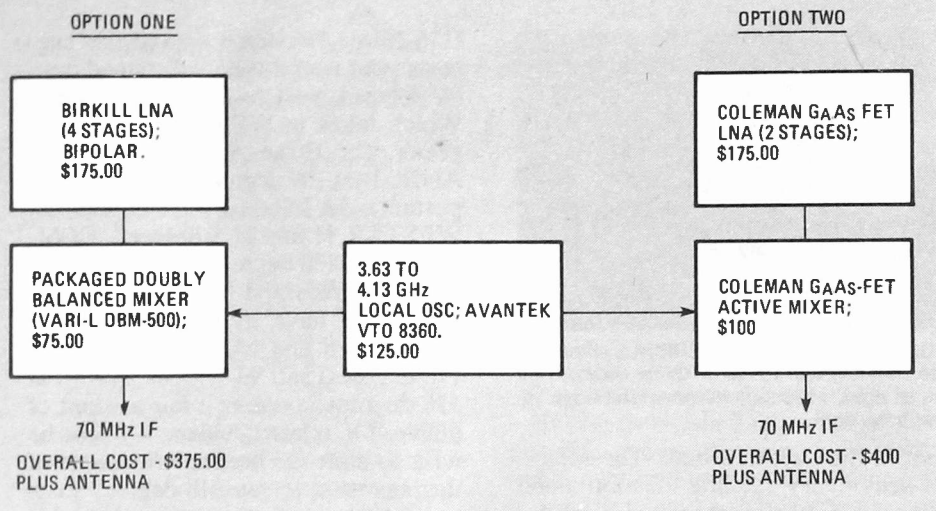

FIG. 2—TWO DESIGN APPROACHES to receiving satellite broadcasts. The Birkill approach is shown in option 1 while the Coleman approach is shown in option 2.
Electronic gain is least expensive to come by at the lowest frequency to be used in the RF portion (the 70 MHz IF) but unfortunately we cannot place all of the gain here. Some gain must go at 4 GHz as well. In Fig. 2 we see two options open to us.
2. In *option one* (Fig. 2) we could build a four-stage bipolar LNA (the so-called Birkill HXTR series LNA named after its developer Steve Birkill), follow this with a state-of-the-art doubly-balanced (passive) mixer such as the VARI-L DBM 500 4 GHz to 70 MHz (IF) package, and end up at 70 MHz with a total cost to that point of \$675 including the antenna.
3. In *option two* (Fig. 2) we can build a two-stage Coleman GaAs-FET LNA and follow this with a single-stage Coleman GaAs-FET active mixer, again ending up at a 70 MHz IF for a total material cost of \$700 including the antenna.